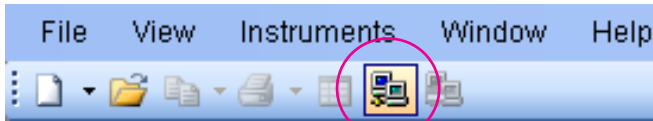

Figure 1. Connect to the HSA
- Click the connection shortcut in the toolbar as shown in Figure 1